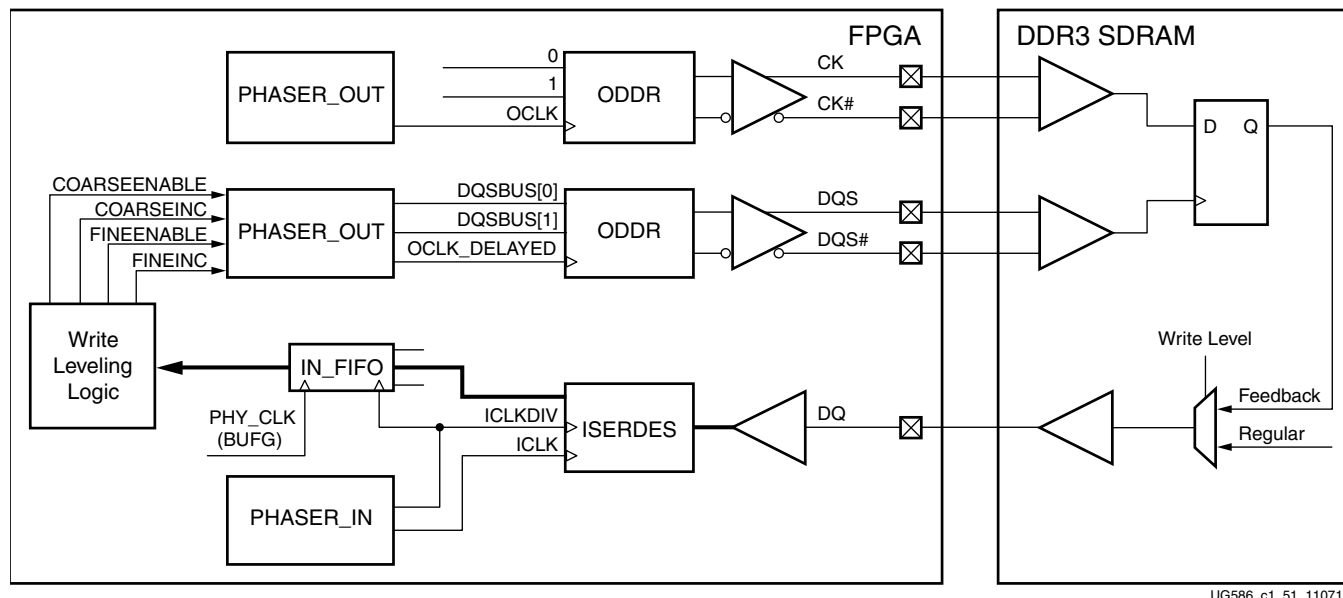

Figure 1-60: Write Leveling Block Diagram
Write leveling, which is a feature available in DDR3 SDRAM, is performed in this stage of calibration. DDR3 SDRAM modules have adopted fly-by topology on clocks, address, commands, and control signals to improve signal integrity. Specifically, the clocks, address, and control signals are all routed in a daisy-chained fashion, and termination is located at the end of each trace. However, this causes a skew between the strobe (DQS) and the clock (CK) at each memory device on the module. Write leveling, a new feature in DDR3 SDRAMs, allows the controller to adjust each write DQS phase independently with respect to the CK forwarded to the DDR3 SDRAM device. This compensates for the skew between DQS and CK and meets the  $t_{DQSS}$  specification. During write leveling, DQS is driven by the FPGA memory interface and DQ is driven by the DDR3 SDRAM device to provide feedback. The FPGA memory interface has the capability to delay DQS until a 0-to-1 transition is detected on DQ. Write leveling is performed once after power-up. The calibration logic ORs the DQ bits in a byte to determine the transition because different memory vendors use different bits in a byte as feedback. The DQS delay can be achieved with the PHASER\_OUT fine and coarse delay adjustment in the 7 series FPGAs. Figure 1-60 shows the write leveling block diagram.